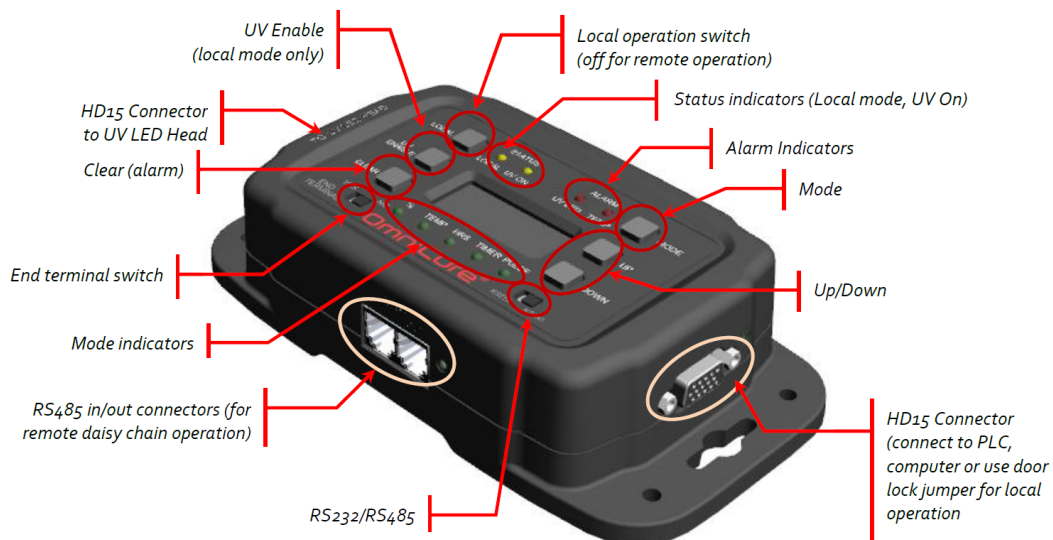

Figure 2 PLC Console (PLC2000 Remote Control Console shown)
7. Connect the PLC loop-back connector to the PLC pass-through port. Refer to Figure 2.
9. Adjust intensity using the up / down button to the right of the display (see Figure 2), rotating clockwise and counter-clockwise to increase and decrease the intensity respectively. Refer to Section 6, "Using the LED Head".
10. UV LED & Temperature faults will be indicated by an illuminated LED on the control console. To clear, press the Clear Fault button (see Figure 2).